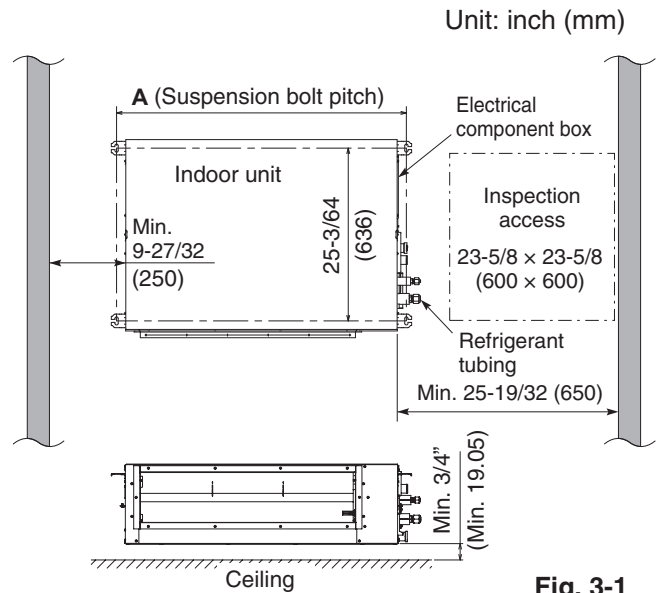

Fig. 3-1
- The minimum space for installation and service is shown in Fig. 3-1 and Table 3-1.
- Space between the unit and the ceiling should be more than 3/4" (19.05 mm). (Fig. 3-1)
- (1) When placing the unit inside the ceiling, determine the pitch of the suspension bolts referring to the dimensional data as shown in Fig. 3-1 and Table 3-2.